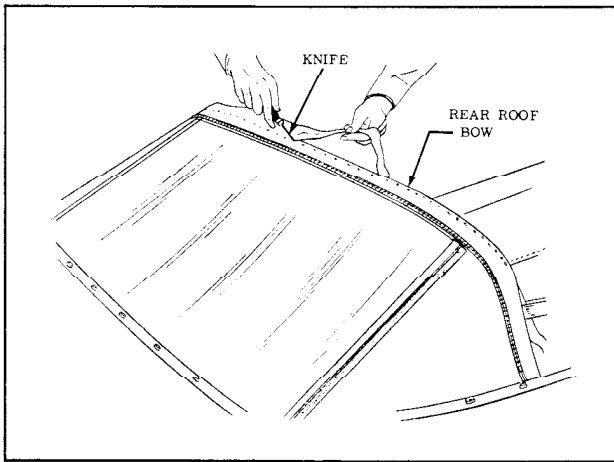

Fig. 15-97 Trimming Material at Rear Bow
17. Working from body center progressively outboard to right and left sides, tack back curtain upper valance to rear bow. Make sure all fullness has been drawn from curtain before trimming off excess at rear bow. (Fig. 15-97)